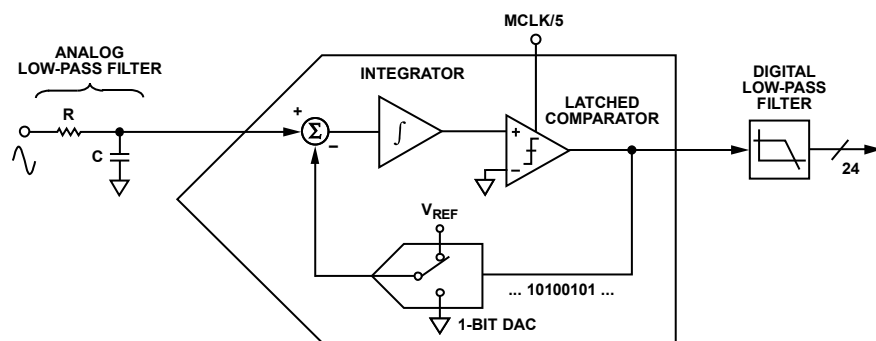
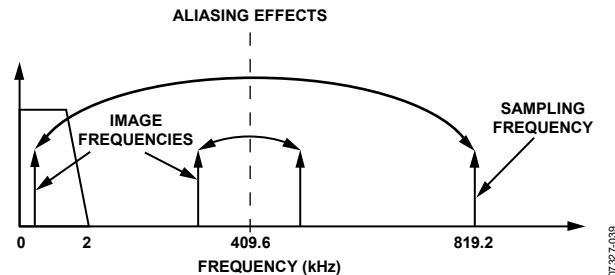

Figure 38. First-Order  $\Sigma$ - $\Delta$  ADC
Figure 39. ADC and Signal Processing in Current Channel Outline Dimensions
For simplicity, the block diagram in Figure 38 shows a first-order  $\Sigma$ - $\Delta$  ADC. The converter is made up of the  $\Sigma$ - $\Delta$  modulator and the digital low-pass filter.
Figure 38 also shows an analog low-pass filter (RC) on the input to the modulator. This filter is present to prevent aliasing, an artifact of all sampled systems. Aliasing means that frequency components in the input signal to the ADC, which are higher than half the sampling rate of the ADC, appear in the sampled signal at a frequency below half the sampling rate. Figure 39 illustrates the effect. Frequency components (the black arrows) above half the sampling frequency (also known as the Nyquist frequency, that is, 409.6 kHz) are imaged or folded back down below 409.6 kHz. This happens with all ADCs regardless of the architecture. In the example shown in Figure 39, only frequencies near the sampling frequency (819.2 kHz) move into the band of interest for metering (40 Hz to 2 kHz). This allows the use of a very simple low-pass filter (LPF) to attenuate high frequency (near 819.2 kHz) noise and prevents distortion in the band of interest.
For conventional current sensors, a simple RC filter (single-pole LPF) with a corner frequency of 10 kHz produces an attenuation of approximately 40 dB at 819.2 kHz (see Figure 39). The 20 dB per decade attenuation is usually sufficient to eliminate the effects of aliasing for conventional current sensors. However, for a di/dt sensor such as a Rogowski coil, the sensor has a 20 dB per decade gain. This neutralizes the -20 dB per decade attenuation produced by one simple LPF. Therefore, when using a di/dt sensor, care should be taken to offset the 20 dB per decade gain. One simple approach is to cascade two RC filters to produce the -40 dB per decade attenuation needed.